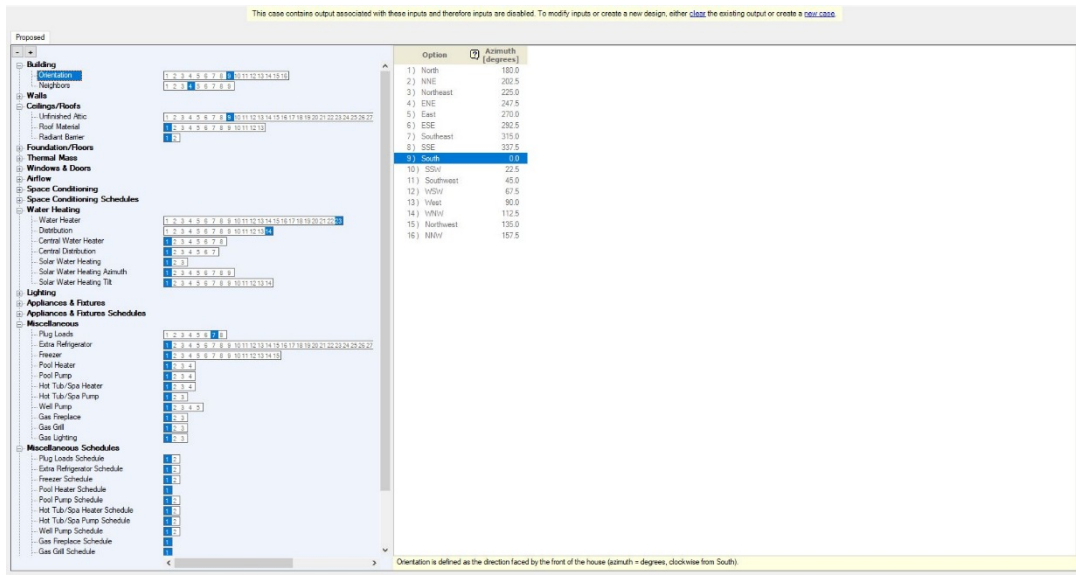

Figure 2: The BEopt Options Screen
- Figure 2 shows the **Options screen**.